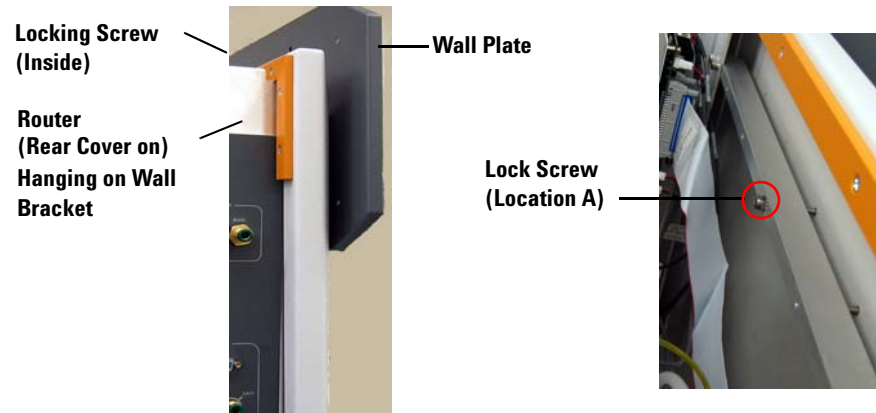

Figure 11 Router fastened to mounting bracket
- 10 Screw the lock screw into the mounting plate to lock the router in place, see Figure 11 on page 23.